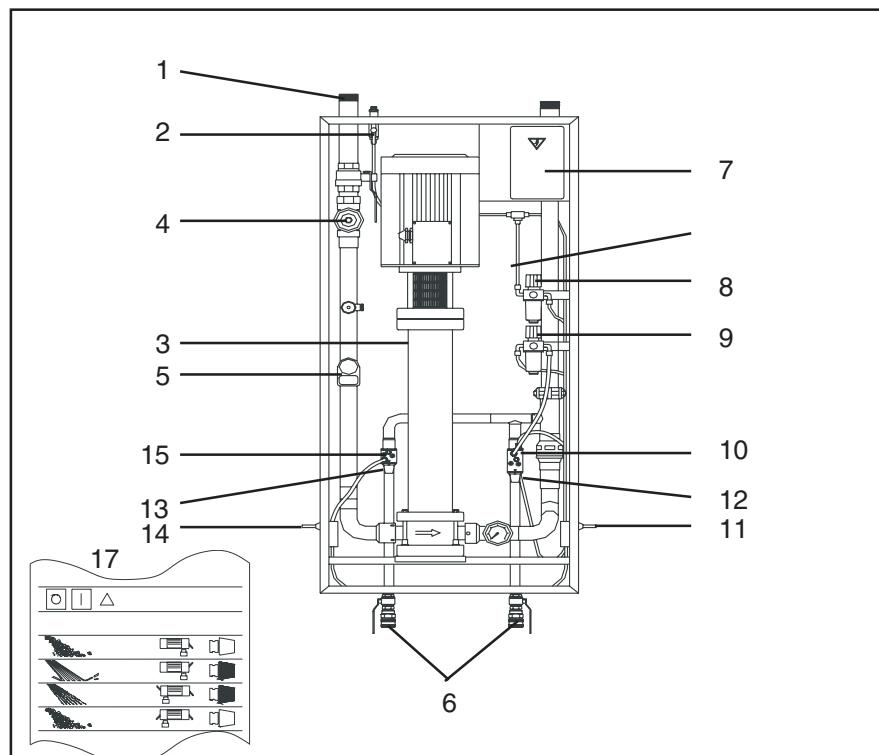

Fig. 6
**S4000 DF, S4000 DFU, S4100 DF, S4100** (fig. 6, without User Pack\*). Facilities: Rinse/foam function and spray/foam disinfection.